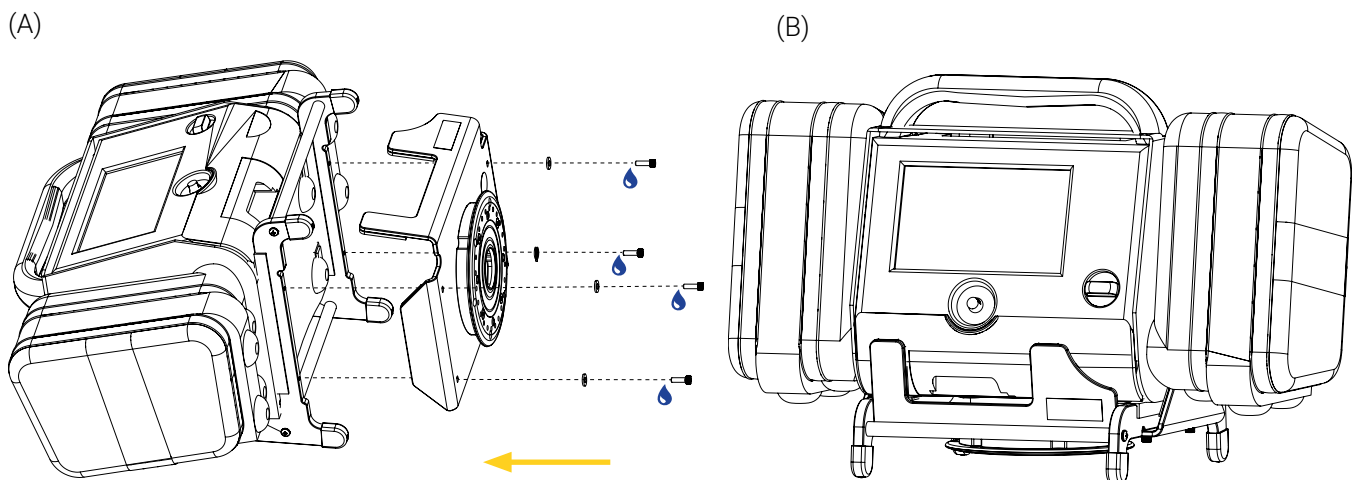

Figure 9: Medical device installed in the support bracket
4. Reinstall the bottom plate on the support bracket, using the four (4) screws coated with medium strength thread lock adhesive, four (4) washers and a hex key 5/32 in. (Figure 9 A).
5. Ensure that the four (4) screws of the bottom plate are sufficiently tightened. If not, tighten using a hex key 5/32 in.
6. Flip the support bracket on its feet (Figure 9 B).